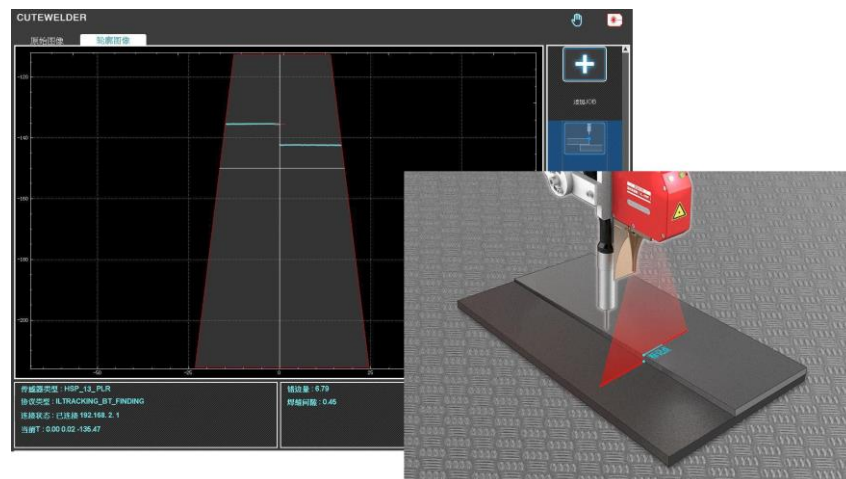

Figure 8-19 Location diagram
Step4. Move the robot down so that the laser recognition point is directly below the feature point, that is, the laser irradiates the mark point, and the red cross feature point under the contour image interface of the CUTEWELDER software is located directly above the image window, as shown in Figure 8-19. Click <Record>, and the **X** in front of it will turn into **✓** after the record is completed.